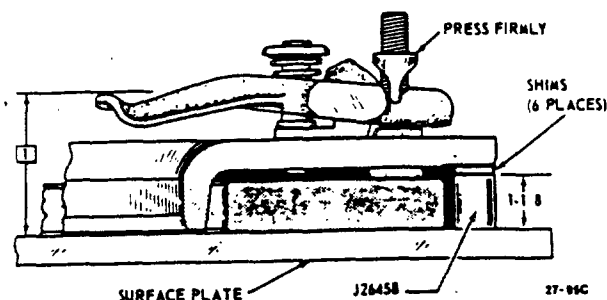

Figure 4-7. Wear Check
Place the pressure plate assembly and cover (without springs) into position as shown in Figure 4-7, making sure that shims of the correct thickness (0.200) are inserted between cover and spacer (J26458). Install each release lever and while pressing firmly on the fulcrum, measure distance (1) inboard end of lever is above cover.